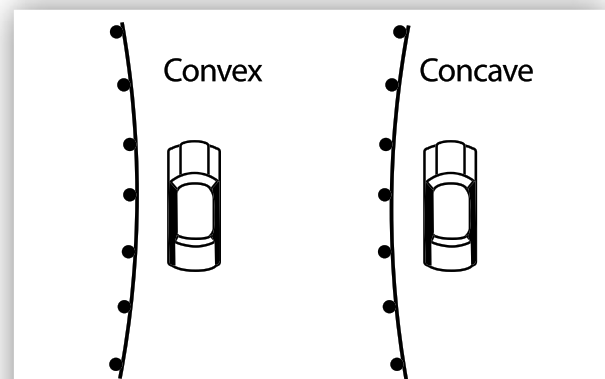

Figure 9: Curvature Orientation
5. Determine the curvature orientation from Figure 9.